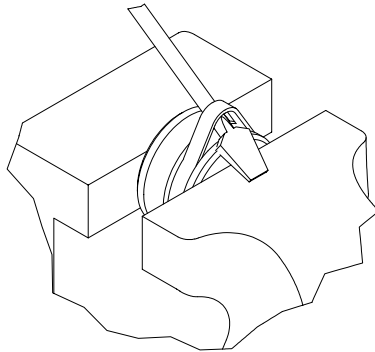

Figure 5-8, Piston Seal
7. Carefully pry up on the piston seals using a blunt tip screw driver being careful not to scratch the seal grooves. Cut the seals to remove from the piston. (Figure 5-8)